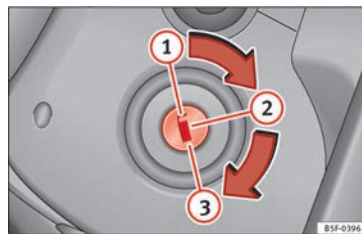

Fig. 148 Ignition key positions.
In this position » **Fig. 148**, the ignition and the engine are OFF and the steering may be locked.
- Turn the ignition key to position » **Fig. 148**  2. The warning lamp  will light for engine pre-heating.
- Turn the ignition key to position » **Fig. 148**